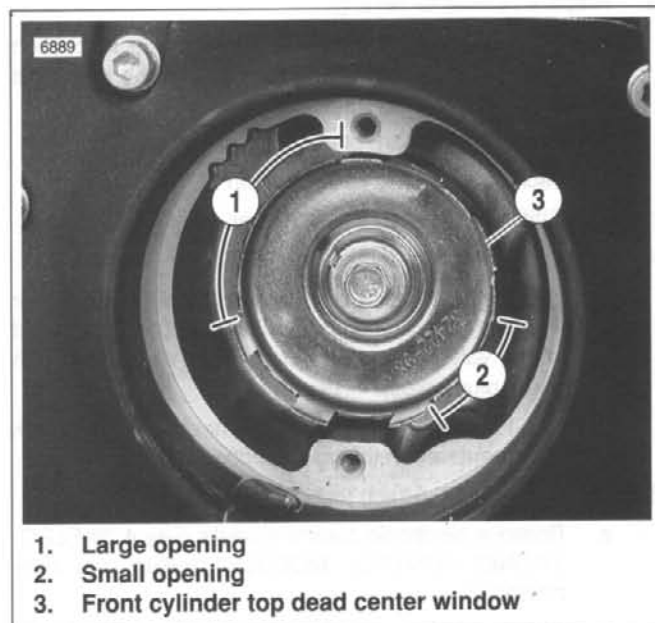

Figure 1-69. Trigger Cup Openings
6. See Figure 1-69. Set static timing. This will align openings (1, 2) on trigger cup with cam position sensor.